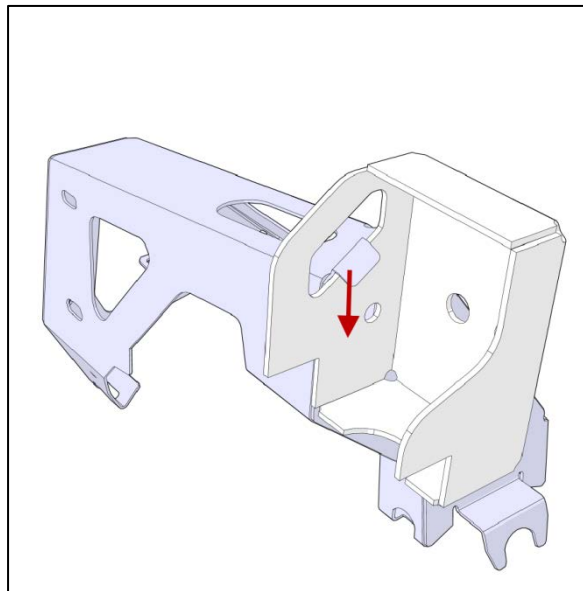

Figure 17
17. Install the new surge tank support in place. Be careful to hook the tab on the vehicle structure as shown on Figure 17.